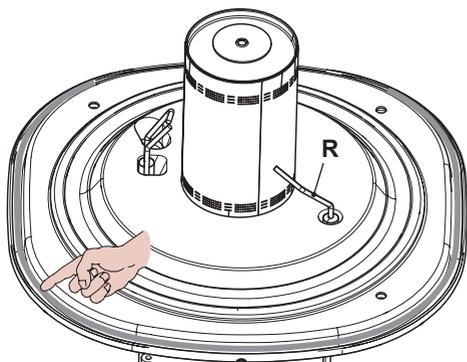
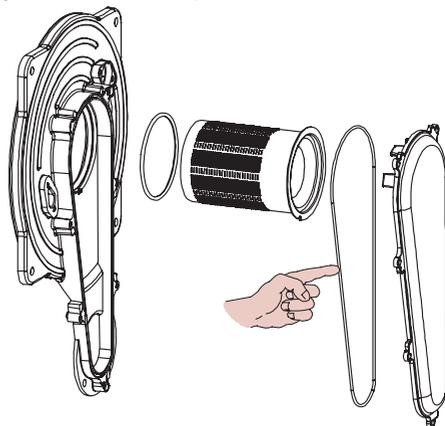

Fig. 9.10
Fig. 9.12
- The detection electrode R in Fig. 9.10 also functions as a sensor for the correct drainage of the condensate.
Caution: After any periodical servicing or disturbance the combustion chamber silicon seal (Fig. 9.10) and the Air-gas duct gasket (Fig. 9.12) must be fully inspected and replaced at the discretion of the service engineer.